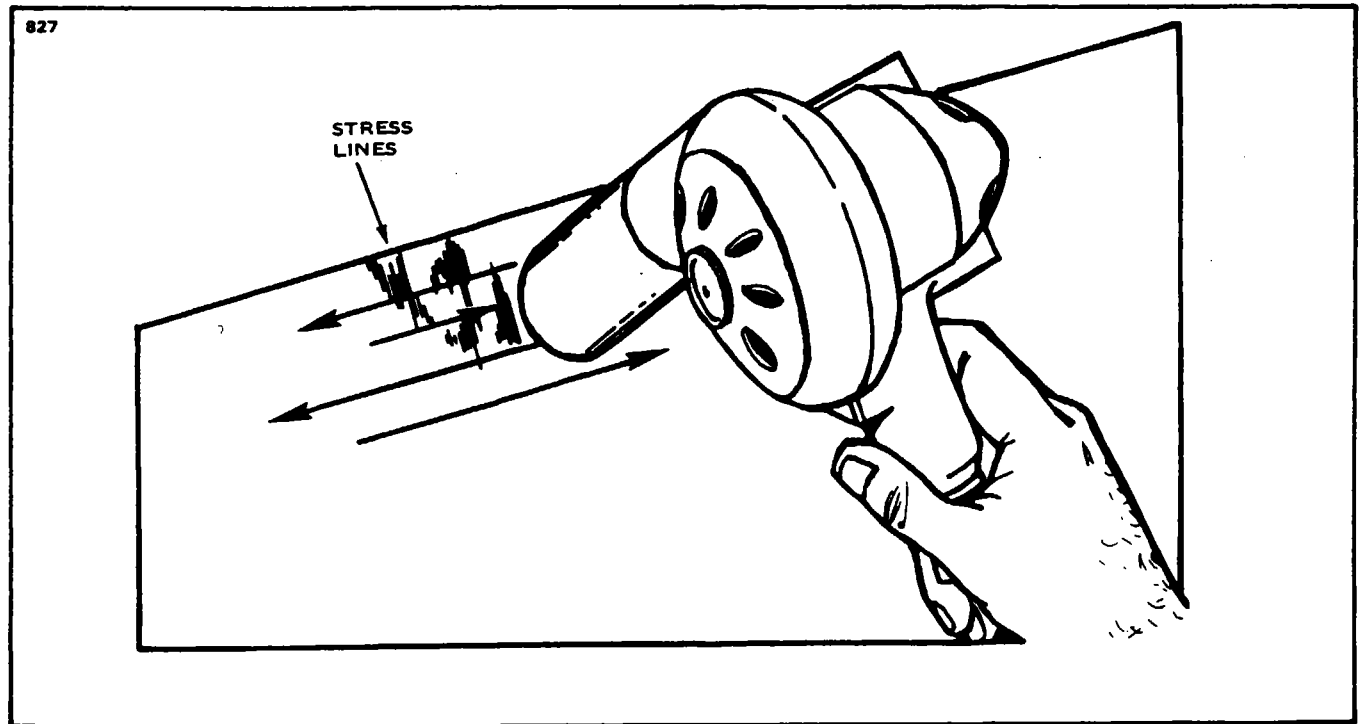

Figure 4-16. Repair of Stress Lines.
- f. **Stress Lines:** (Refer to Figure 4-16.)